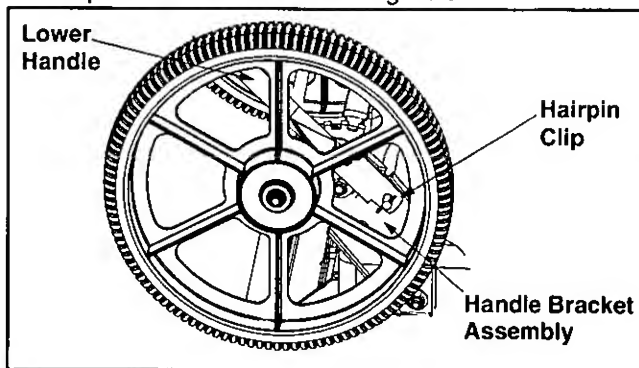

Figure 3
- Remove the hairpin clips from the outer hole in the weld pins on the handle bracket assemblies. Using a pair of pliers, squeeze one leg of the lower handle against the handle bracket assemblies. Insert the hairpin clip into the inner hole on the weld pin. Repeat on other side. See Figure 3.